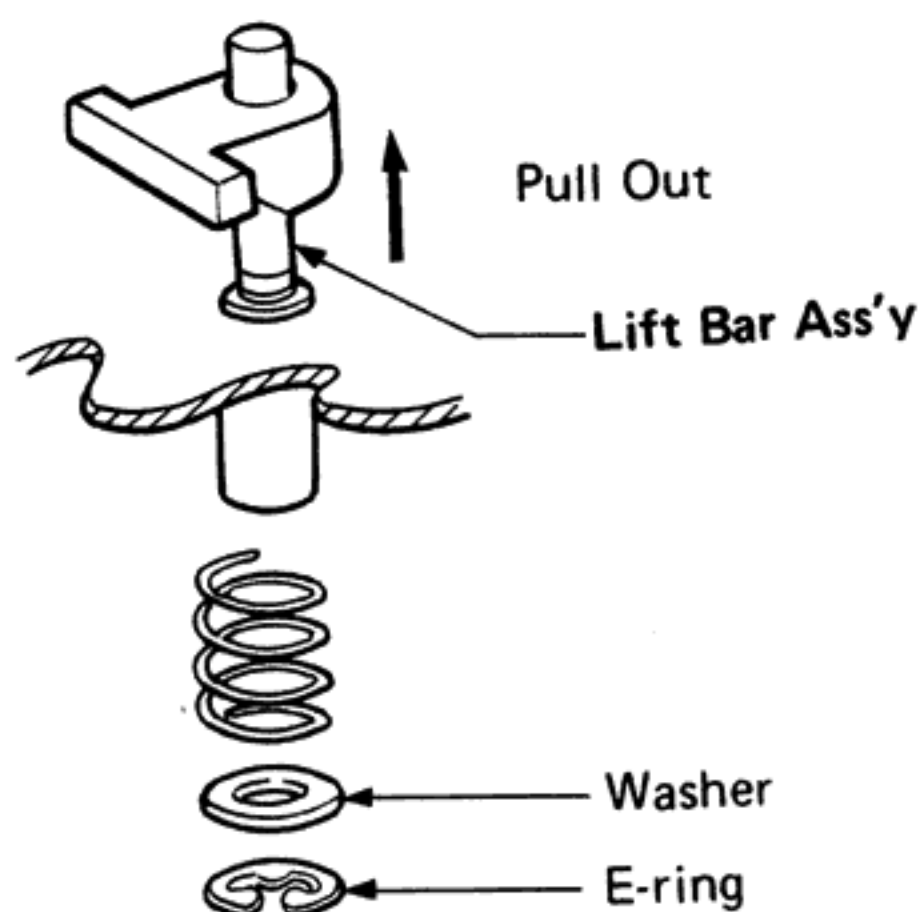

Fig. 3
- 3) Remove the E-ring and washer for the spring clamp attached to the arm lift base. Then detach the spring. (Fig. 3)